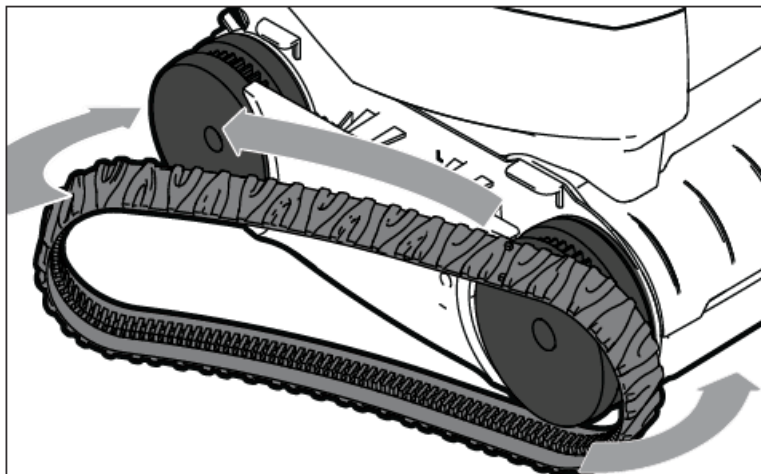

Figure 21. Stretch Track Around Wheels
5. Verify the rib of the track is positioned properly within the groove of each of the wheels. If necessary, turn the wheels gently to seat track. Figure 21.